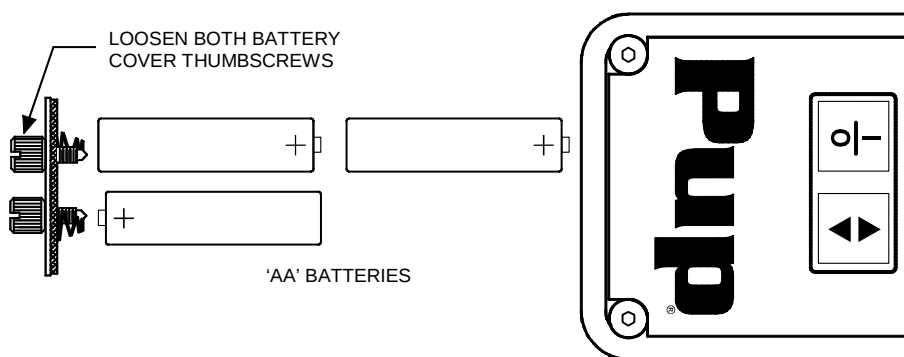

Figure 4. Battery Installation
2. Insert three 'AA' batteries into the Pup, observing polarity as shown in Figure 4.